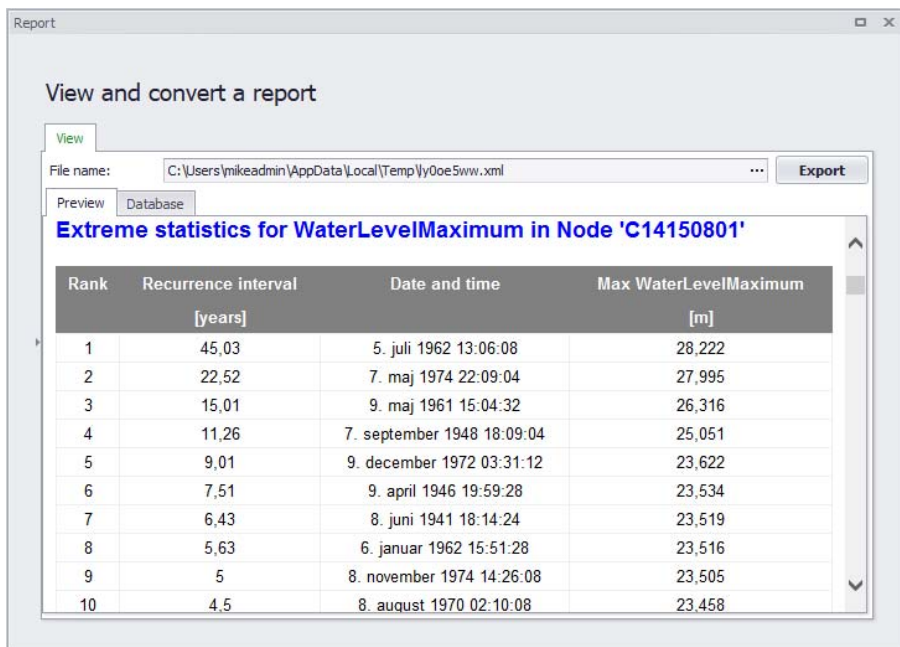

Figure 20.72 Example detailed LTS extreme event statistics report
- Click on the ‘OK’ button to create a new Detailed LTS Extreme Event Statistics report. An example is shown in Figure 20.72.